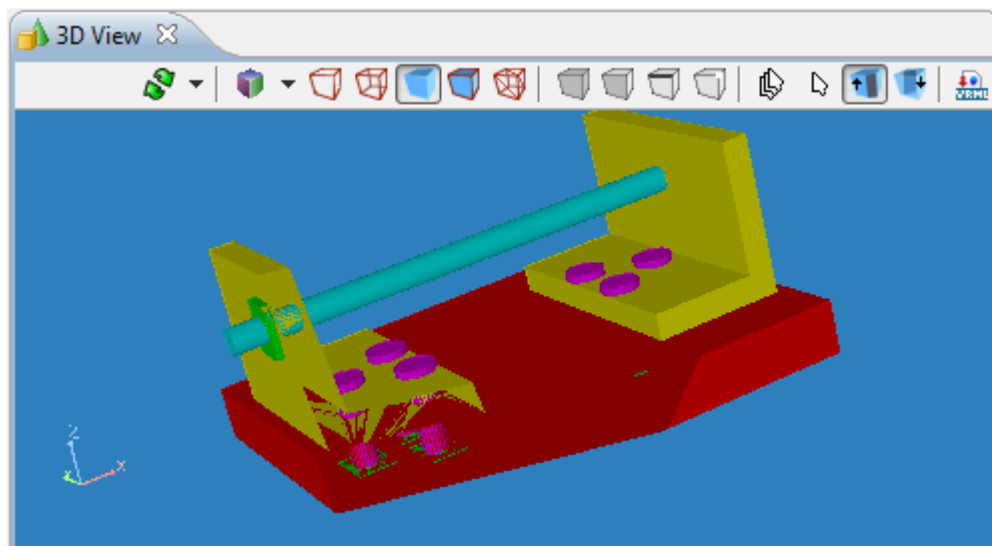

Figure 2. Clipped front plane
- Click and drag the mouse upwards to dive into a front clipping plane of the 3D object (see Figure 2).